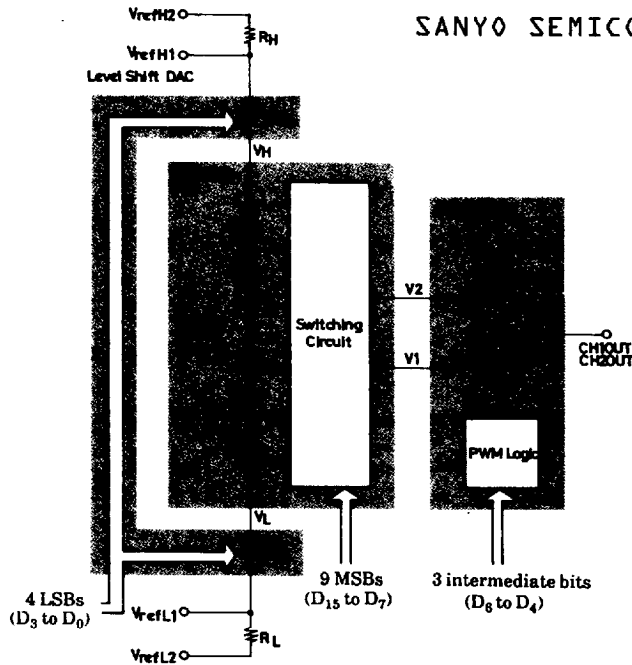

Fig.1 D/A Conversion System of the LC7881
(2) Conversion (See Fig.1.)
(3) Vref Terminal (See Fig.1.)
The internal resistors (RH and RL shown in Fig.1) limit the maximum amplitude to about 2V (peak to peak) level.